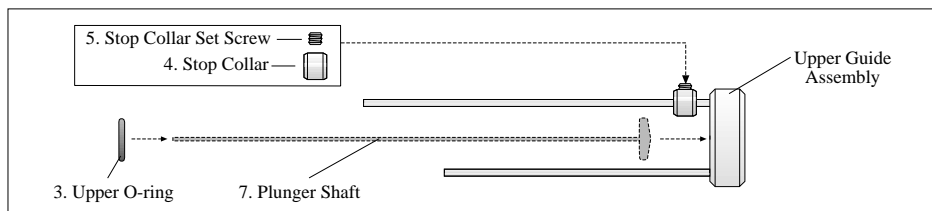

Figure 2
4. Place the plunger button (6) into the upper guide assembly (Figure 2).
5. Slip the O-ring (3) over the plunger shaft (7), and position it into the groove in the upper guide to secure the plunger (Figure 2).
6. Slide the stop collar (4) to the top of the longest rod on the upper guide assembly and temporarily tighten the stop collar set screw (5) with the Allen key.